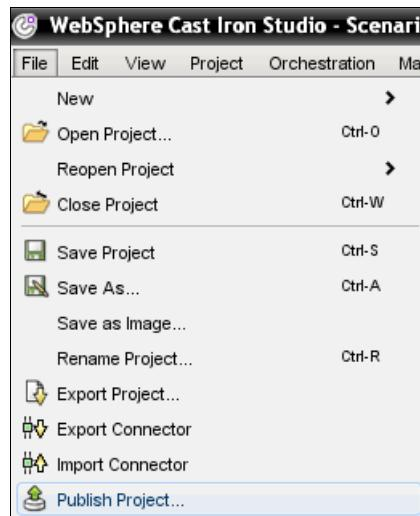

Figure 10-71 Publish the project
2. Click **File → Publish Project**, as shown in Figure 10-71 on page 401.